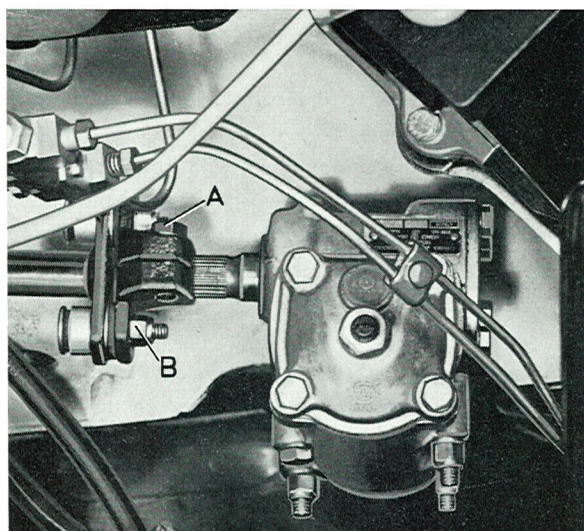

Fig. 6-38. Steering box
2. Loosen the bolt (B, Fig. 6-38) at the lower steering column shaft flange. Remove the nuts (A) and move the lower part of the flange as far down as possible on the steering cam.